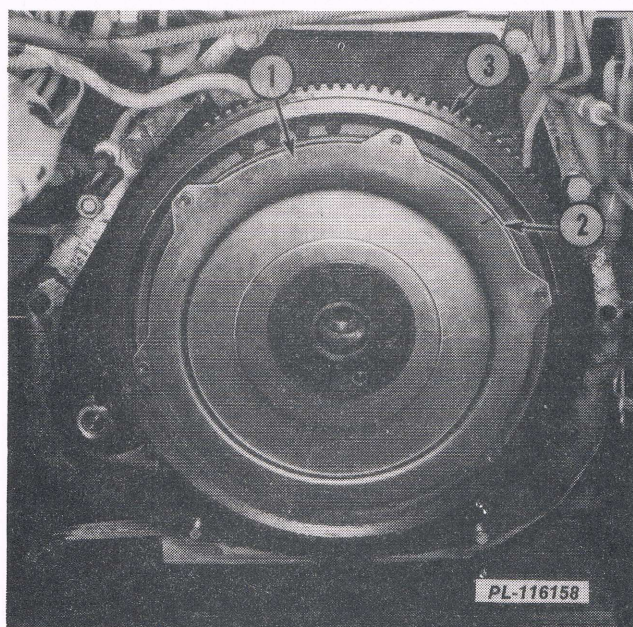

Fig. 6
Torque Converter Transmission: Place alignment marks on the flex plate (1) and torque converter, then remove the six bolts connecting the torque converter to the flex plate. See Fig. 6.